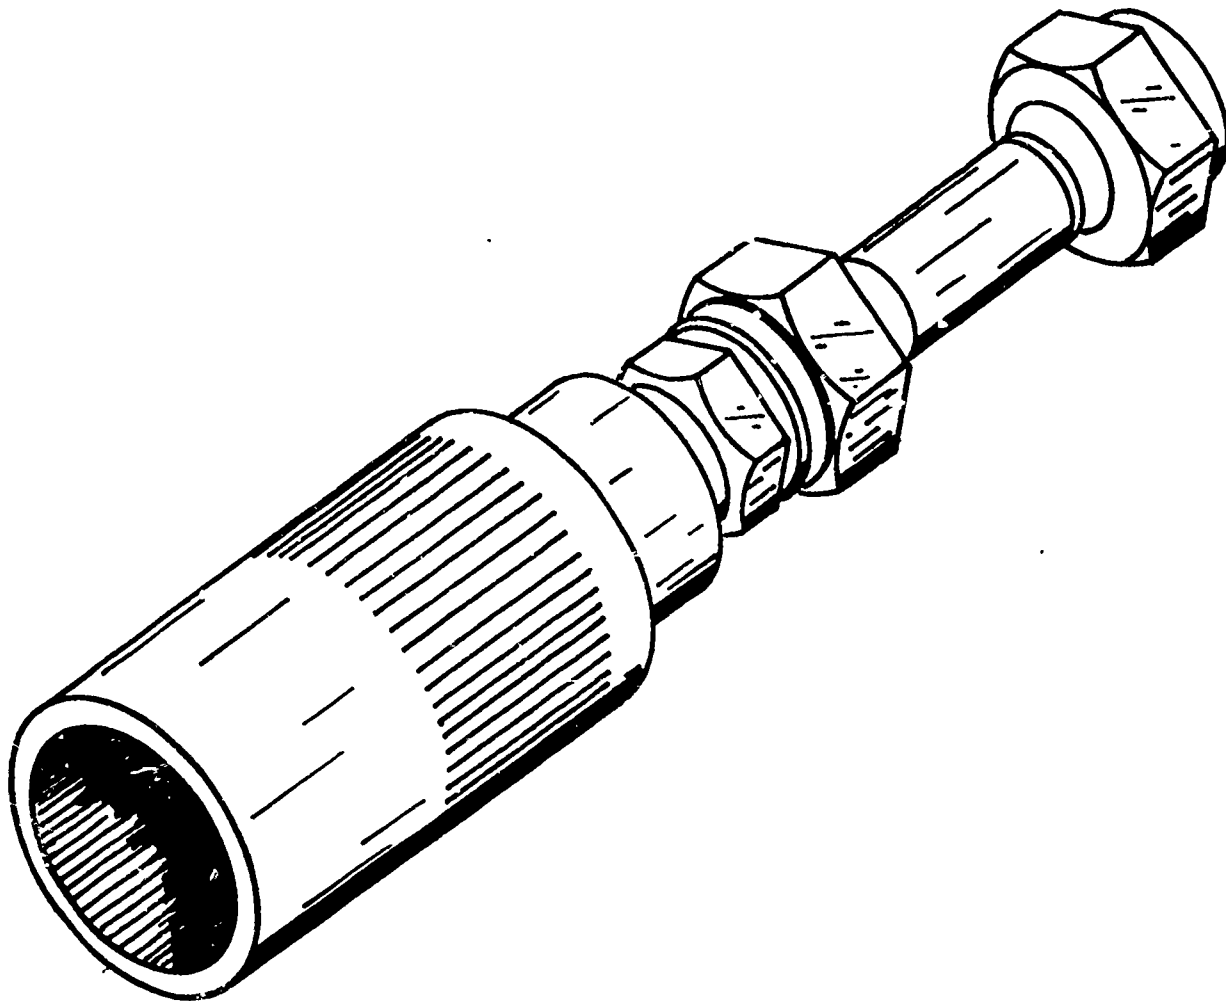

Figure 1. Hose Adapter.
7. Take the hose adapter (figure 1) from the toolbox and put it on the CABIN LEAKAGE TEST port. Do not lose the cap that you remove from this port. Tighten the adapter connection with a wrench; just tight enough so that it will not leak when the trainer cabin is pressurized.